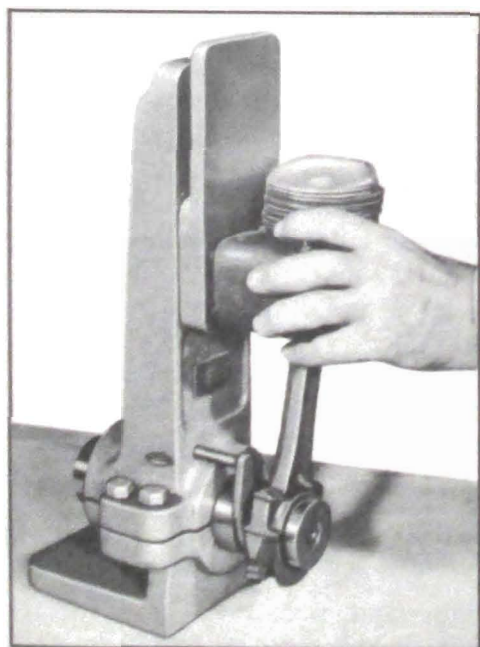

Figure 2-32—Checking Connecting Rod and Piston Alignment
3. Check alignment of rod and piston in the connecting rod aligning fixture. See figure 2-32.